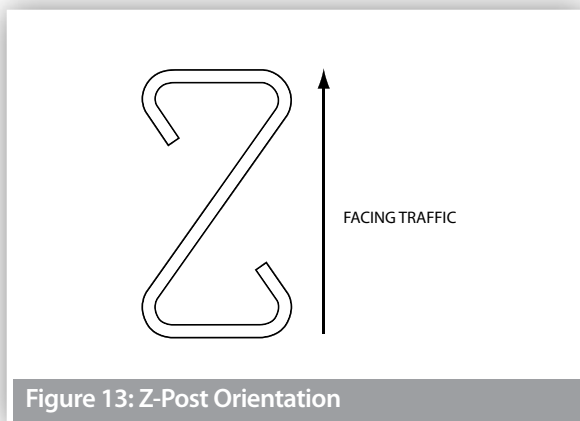

Figure 13: Z-Post Orientation
3. The post in relation to the direction of traffic as per orientated as per Figure 13.